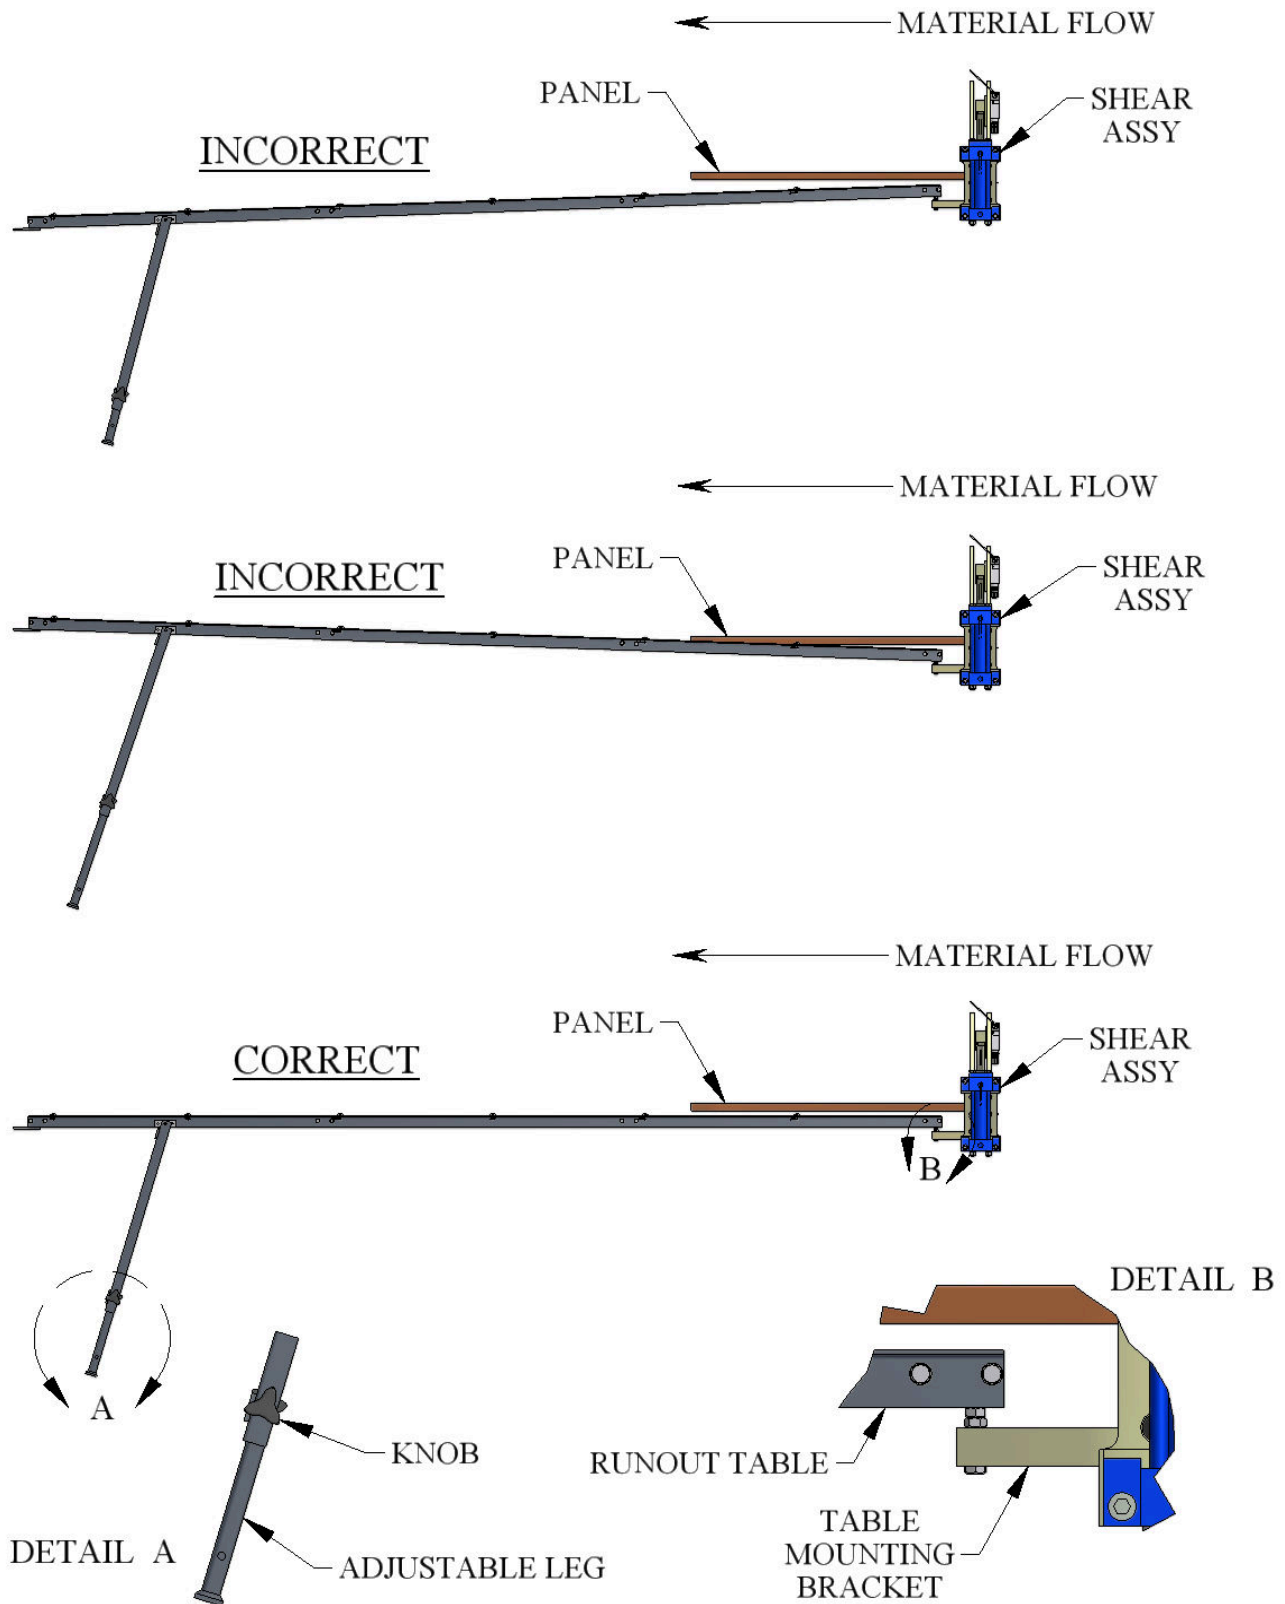

Figure 121: Run Out Table Setup
(Figure 120 & Figure 121)
4. Loosen the 2 knob-handles on the leg assembly and allow the legs to fall free. Sight the height of the table on the left and right side adjusting it level to the machine using the knob-handles to lock the legs in place. See Figure 121 for correct and incorrect set up and details.